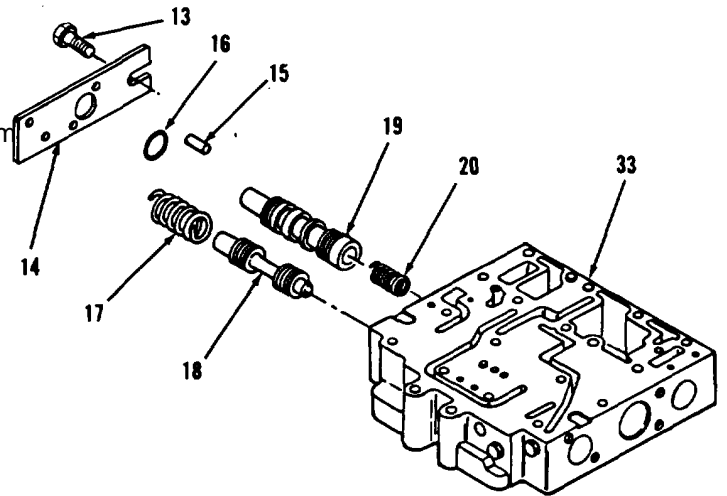
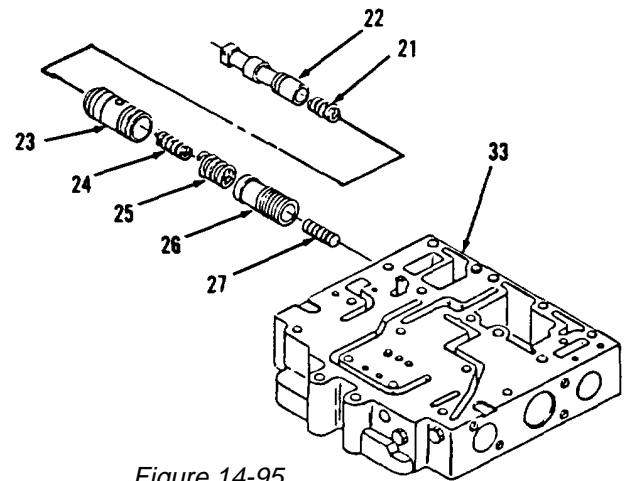
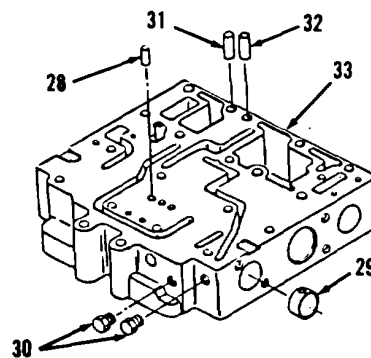

Figure 14-94.
Figure 14-95.
Figure 14-96.
8. Remove three bolts (13), cover (14) and pin (15) from body (33, Figure 14-94).
9. Remove and discard preformed packing (16) from cover (14).
10. Remove spring (17) and spool (18).
11. Remove spool (19) and spring (20).
12. Remove spring (21), spool (22), springs (24 and 25) and piston (26, Figure 14-95).
13. Remove slug (27) from piston (26).
14. Remove dowel (28) and stop (29) from body (33, Figure 14-96).
15. Remove two plugs (30), four dowels (31) and eight dampers (32) from body (33).